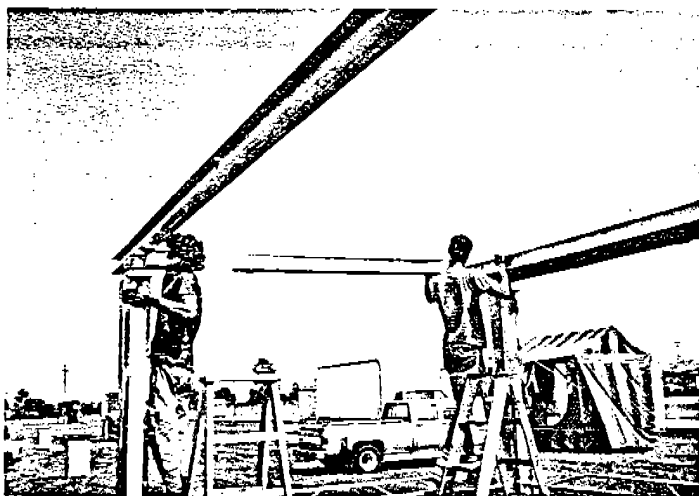

FIGURE 11
4. **INSTALLING CATWALK:** Beginning on "A" side and long catwalks A-1/A-2, set in place at front of ride. Next, set in place long catwalks A-7/A-8 at rear of ride. Short catwalks A-3/A-4/A-5/A-6 may now be installed. Repeat this procedure on "B" side. **NOTE:** Make sure canvas rod is facing inside of ride. (See Figures 11 and 12).